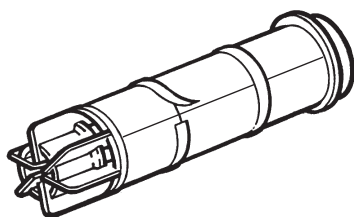

Fig. 24
3. **Wall Thickness 280mm - 685mm (11in - 27in)** - Take the telescopic air duct from its pack. Open the air duct out to the wall thickness. Using the tape provided seal the joints of the three sections of the air duct, ensuring an overlap of at least 30mm ($1\frac{3}{16}$ in) at each joint (Fig. 24).